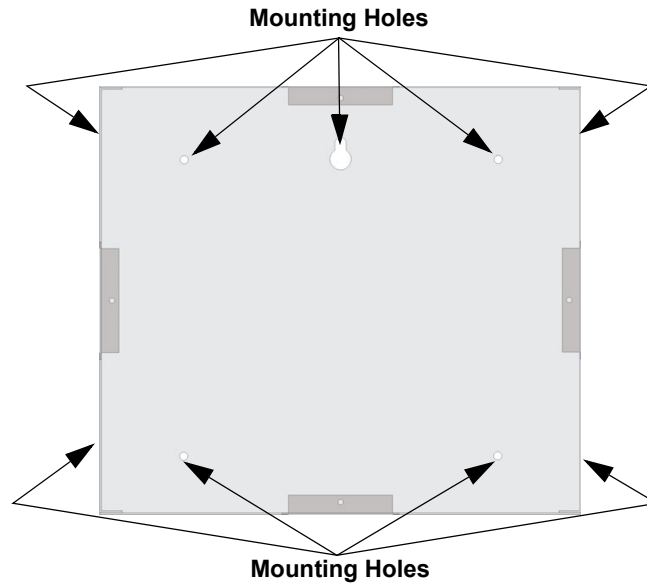

Figure 4.10 Back Box Mounting Holes
1. The back box dimensions are 9-9/32" w x 8-3/8" h. The minimum depth 2". The back box can be mounted prior to the complete installation of the RA-100 using any of the mounting holes shown in Figure 4.10.
1. The back box dimensions are 9 $\frac{1}{4}$ " W x 8 $\frac{3}{8}$ " H. The minimum depth required is 2". The back box can be mounted prior to the complete installation of the RA-2000 using any of the mounting holes shown in Figure 4.10.